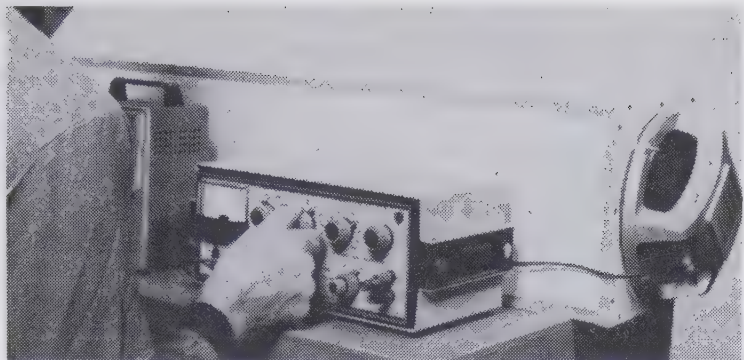

Fig. 8-3. For transmission line experiments you can make a temporary pipe out of celotex, but a folded pipe of the same length will act longer.
To save time and money, you can build a temporary labyrinth out of celotex (Fig. 8-3). If you do not glue the parts together, you can remove sections to make major changes in its length, and test again until the impedance curve looks right.
c. Frequency response test 9, Chapter 3. Use the near-field microphone technique of Method II to monitor the output of the cone and the port. Because of the low frequencies involved, you will need a good microphone for this test to mean anything. The ideal response is shown in Fig. 8-3, with the enclosure acting as a cross-over device between cone radiation and port radiation.